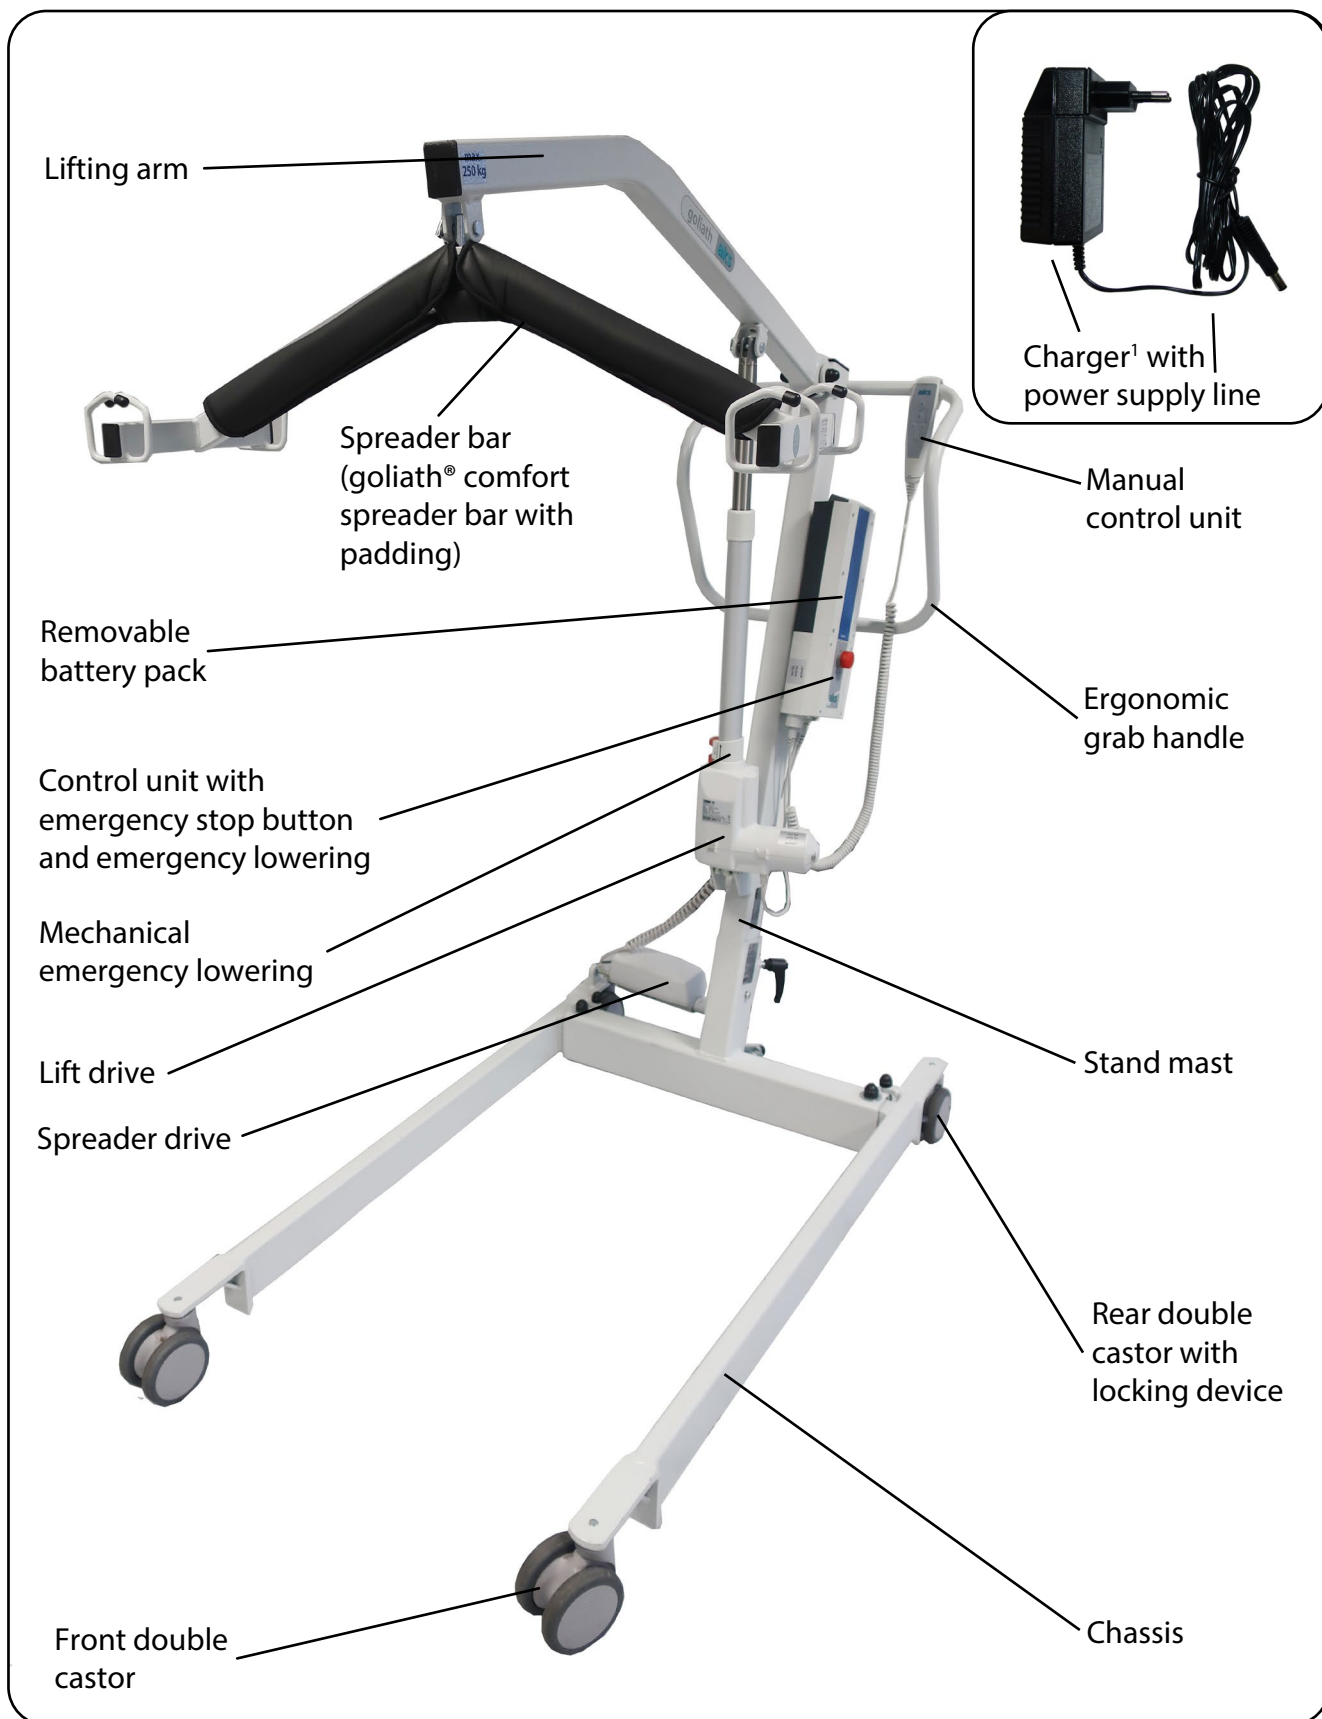
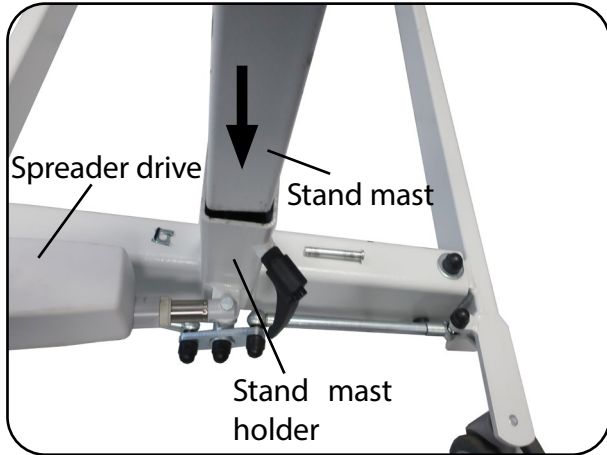

Fig. 5.01 – goliath®
Fig. 6.2.03 - Insert stand mast
5. Insert the stand mast, pointing in the direction of travel, into the stand mast holder on the chassis (Fig. 6.2.03 and Fig. 5.01).